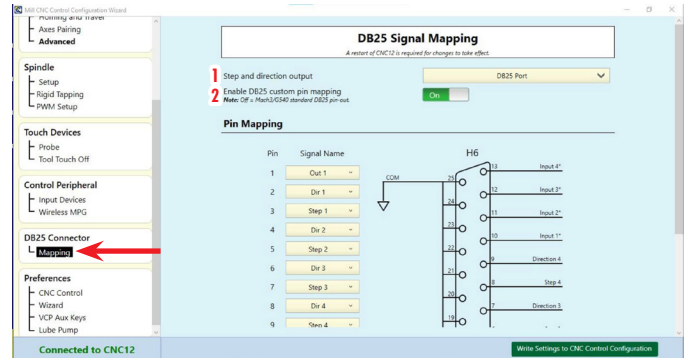

FIGURE 16—The red numerals show the steps for mapping the DB25 connector: 1—Step and direction output set to DB25 Port. 2—Enable DB25 custom pin mapping.
5. Advanced Axis Configuration: These settings are needed when remapping the DB25 connector to 8760 driver box port (see Figure 16).